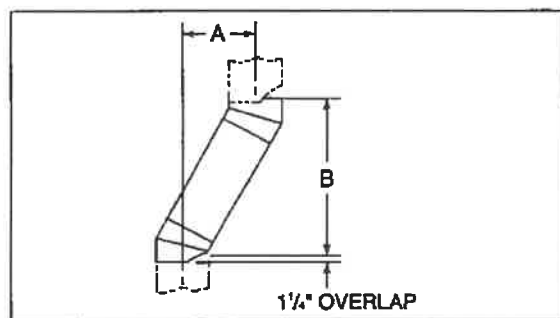

Figure 8
1. Measure how far the chimney needs to be shifted to enable it to avoid the overhead obstacle. See Figure 8, dimension "A".
Example: Your "A" dimension from Figure 8 is 14". Using Table 1, the dimension closest to but not less than 14" is 14 1/2" using a 30° offset/return. It is then determined from the table that you would need 33 9/16" (Dimension "B") between the offset and return. The chimney components that best fit your application are two SL312's.